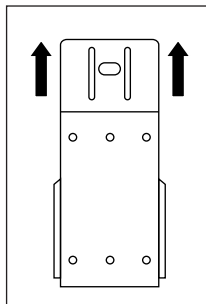

Fig. 2
- Install the mounting plate to a flat, stable, vertical wall. Follow [Fig. 2] regarding the alignment of the mounting plate.